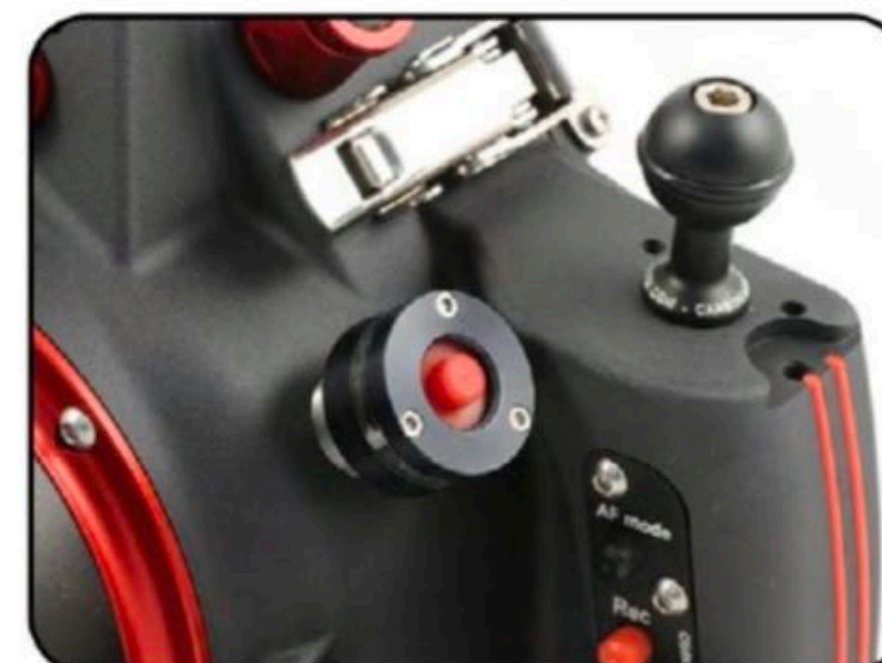

Fig. 2
2. Remove the protective cap. (Fig. 2)